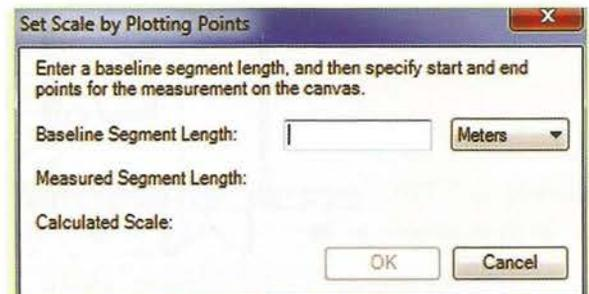

Fig 51: Set Scale by Plotting Points
- d. Click Set scale by plotting points (Figure 51).